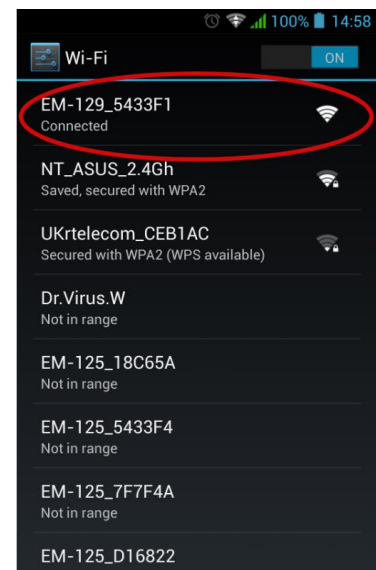

Fig. 3 – Access point of EM-129
At the same time, the status indicator (Fig. 1, pos. 2) will flash in blue-red and meter EM-129 will create an access point with name "EM-129_xxxxxx", where xxxxxx is the unique device code (see Figure 3). Release the button.